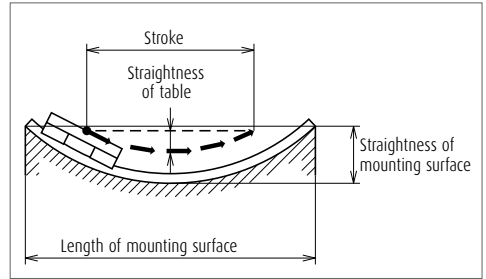

Fig. 4
(1) Accuracy of the mounting base of machine
- > However, when two or more slides are assembled to each rail, the table stroke becomes shorter than the mounting surface. This, along with the fact that the mounting error is evenly spread, contributes to a higher table accuracy than the mounting surface accuracy, reducing the error to about 1/3 in average (Fig. 4).